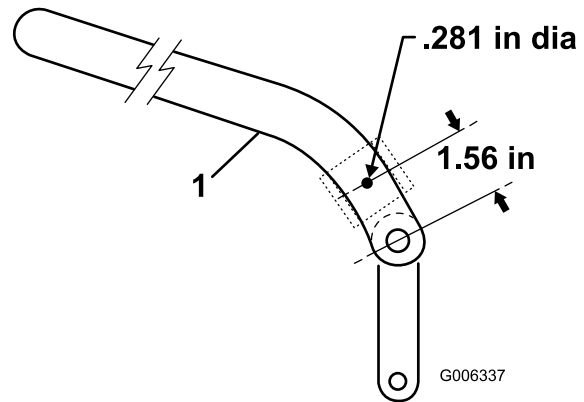

Figure 8
4. Use the dimension shown in (Figure 8) and the actuator bracket, to locate, mark and drill a .281 inch diameter hole in the PTO lever.